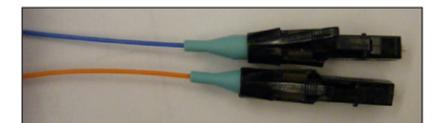

Figure 16: Fiber Cable
- Connect the fiber cable to the first fiber patch panel. Refer to **Figure 16** and the contract-specific Signal Interconnect Drawing and Riser Diagram.